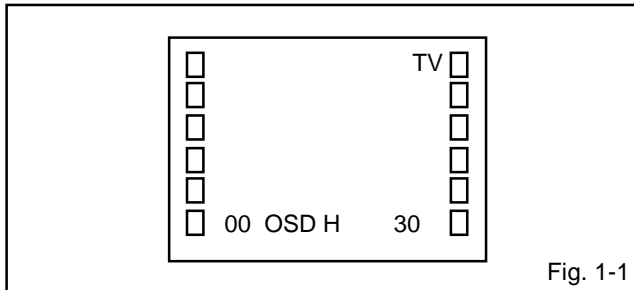

Fig. 1-1
1. In the condition of NO indication on the screen. Press the VOL. DOWN button on the set and the Channel button (9) on the remote control for more than 1 second to appear the adjustment mode on the screen as shown in Fig. 1-1.
4. Activate the adjustment mode display of Fig. 1-1 and press the channel button (01) on the remote control to select "CUT OFF".
4. Activate the adjustment mode display of Fig. 1-1 and press the channel button (12) on the remote control to select "R. BIAS".
10. If the picture is too much green. Activate the adjustment mode display of Fig. 1-1 and press the channel button (28) on the remote control to select "CB PED".
12. If the picture is too much red. Activate the adjustment mode display of Fig. 1-1 and press the channel button (29) on the remote control to select "CR PED".
4. Activate the adjustment mode display of **Fig. 1-1** and press the channel button (**22**) on the remote control to select "COLOR CENT".
4. Activate the adjustment mode display of **Fig. 1-1** and press the channel button (**24**) on the remote control to select "TINT".
3. Activate the adjustment mode display of **Fig. 1-1** and press the channel button (**07**) on the remote control to select "V. SIZE".
3. Activate the adjustment mode display of **Fig. 1-1** and press the channel button (**08**) on the remote control to select "V. LINEARITY".
2. Activate the adjustment mode display of **Fig. 1-1** and press the channel button **(03)** on the remote control to select "H.PHASE".